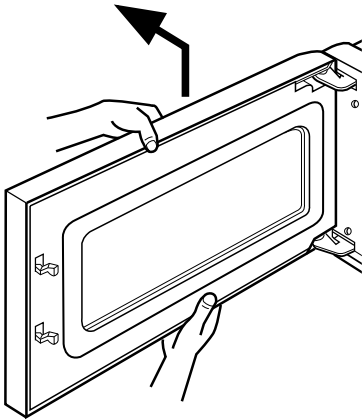

Figure 14
E. REMOVING DOOR (Figure 14)
- (1) Remove the vent grille by two screws securing it to the outcase loosening.
- (2) Lift up and draw the door.